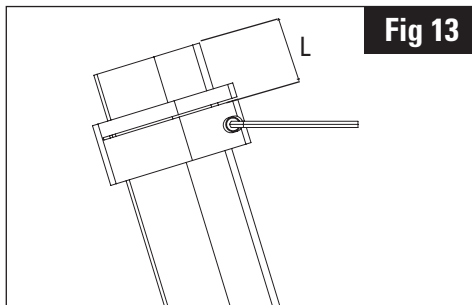

Fig 13
6. Install the cutting tool as necessary and according to the "L" position and tighten to 3 Nm. (Fig.13)